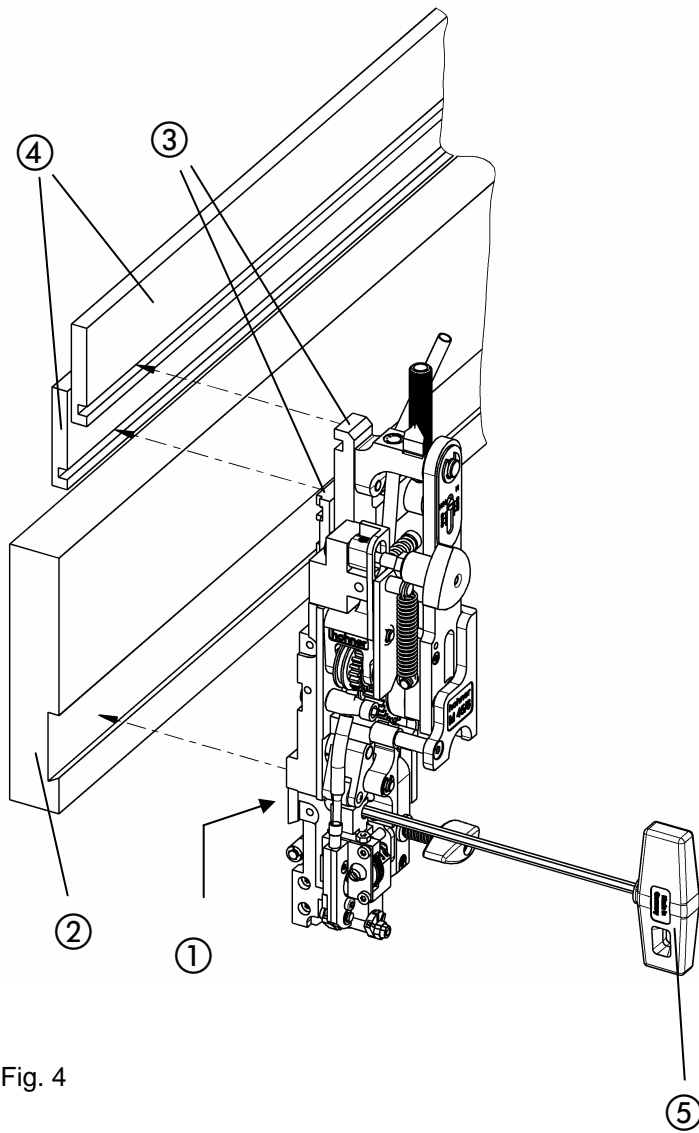

Fig. 4
- Fig. 4 -
- Fix stitching head in stitching head mounting by tightening the tenon block ① with the Allen key.